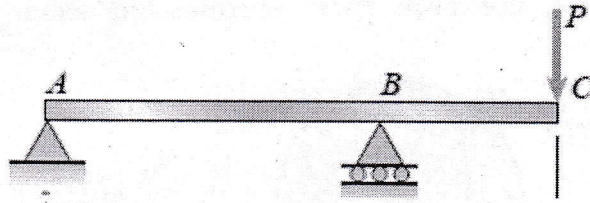

fig 10
- Q7 a) For a beam shown in fig 10  $AB=5\text{ m}$  and  $BC = 2.5\text{m}$ , carries a point load of  $500\text{N}$  at  $C$ . Using Macaulay's method determine the equation of the elastic curve and calculate a) Slope at  $B$  (b) Deflection at  $C$ .  $E = 210\text{GPa}$  &  $I = 5 \times 10^7\text{ mm}^4$ . [6]